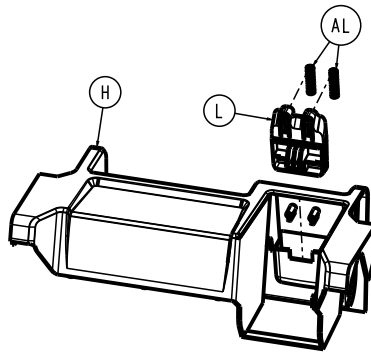

Figure 37 –
Note - The battery release button (L) and compression wires (AL) may fall out while you route the battery housing assembly from the power box upper cover (H) (Figure 37). Reinstall the battery release button and compression wires, if necessary.
6. Remove and discard both compression wires (AL) (Figure 37).